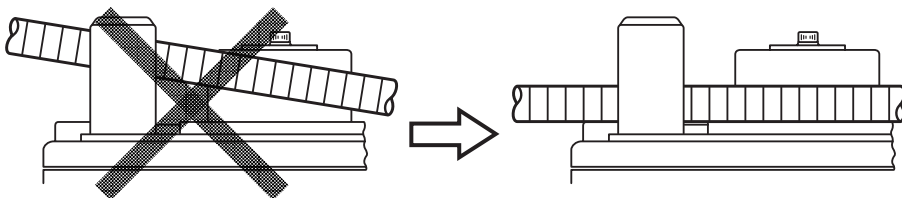

Fig. 17
**If the side that is to be bent is set inclined upward, the rebar can come loose from the bending roller while bending causing it to fly off. (Fig. 17)**